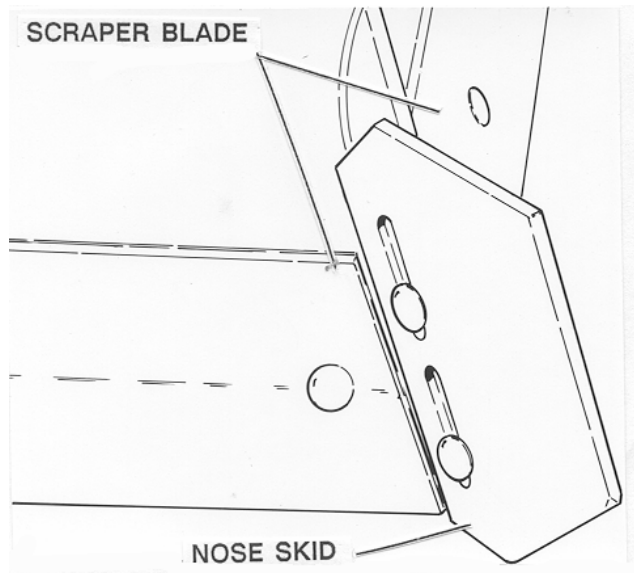

Figure 4
1. Loosen the carriage bolts and nuts retaining the nose skid to the front of the plow (Fig. 4).
2. Adjust the nose skid so its bottom edge is even with the bottom of the plow (Fig. 4).
Important When the scraper blades or nose skid (Fig. 4) wear down, they can be reversed by removing the carriage bolts and nuts. Never allow the scraper blades or nose skid to wear even with the bottom surface of the plow. Reverse the scraper blades or nose skid before the plow starts to wear.